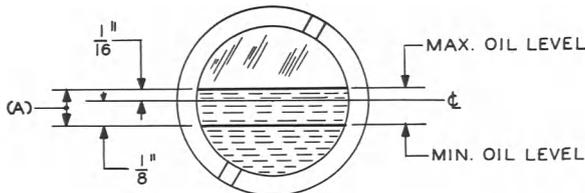

Fig. 5 - Oil Level Limits
(5) Bearing Boxes (No. 47A and 48A Drives): Fig. 5(A) - The running level of the oil shall not be higher than 1/16 inch above and not lower than 1/8 inch below the center line of the oil sight.